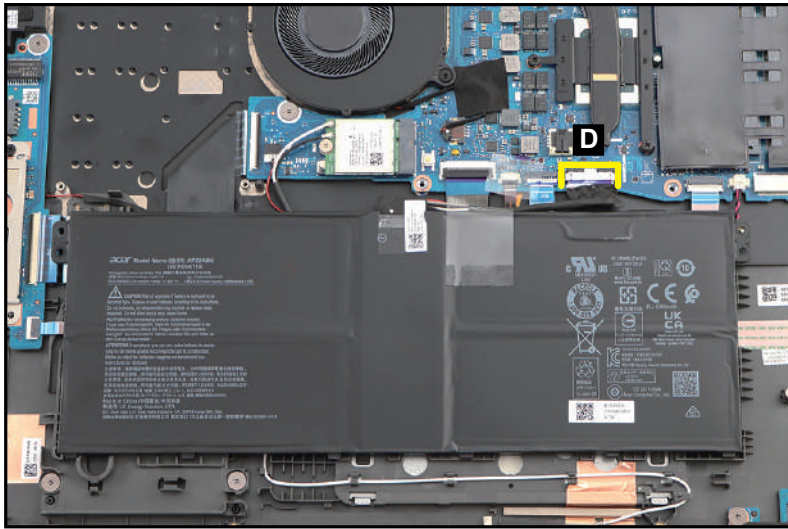

Figure 3-165. Replacing the Battery Pack
3. Connect the battery cable to the battery connector (D) (Figure 3-165).